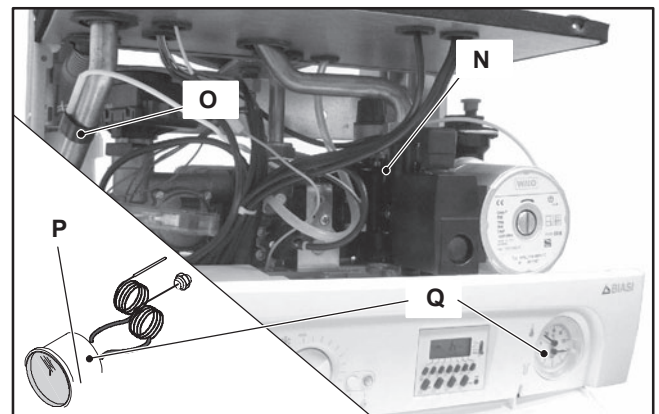

Figure 13.3
- 2 Remove the fork N and the probe holder spring O (Figure 13.3).